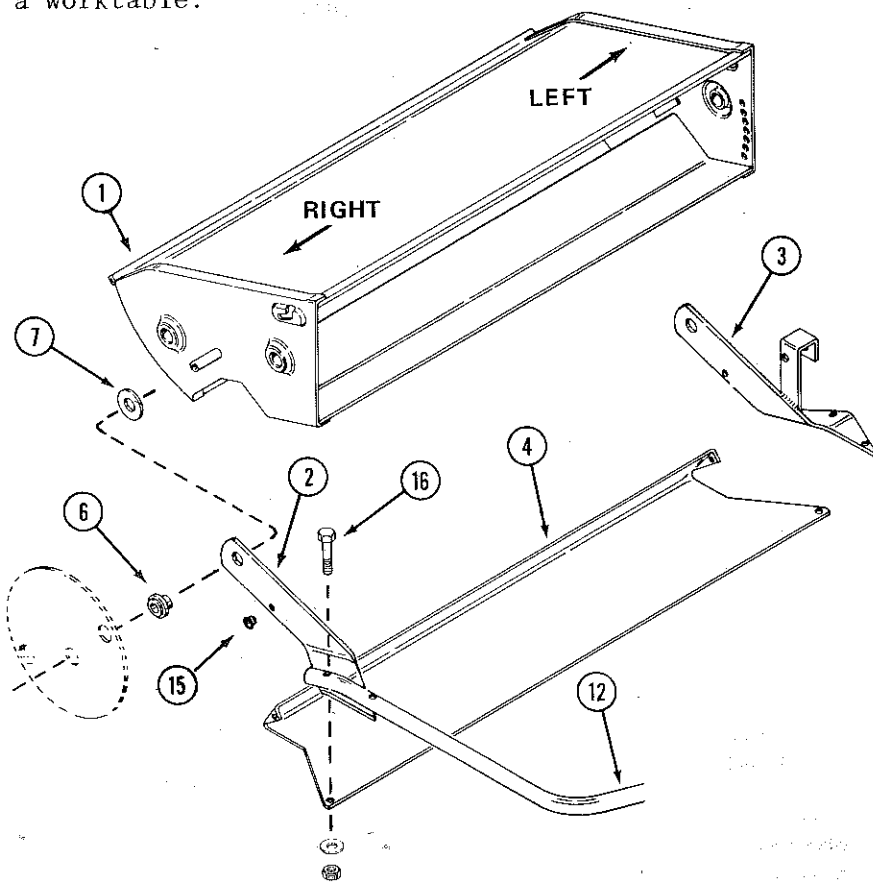

FIGURE 1
26. Install one large flat washer provided on each axle shaft replacing the thicker washers (Figure 1, No. 7) that were removed.
27. Insert the left axle through the left pivot bracket (Figure 1, No. 3).
28. Install the right pivot bracket over the wheel axle (Figure 1, No. 2).
29. Bolt the skid pan (Figure 1, No. 4) to the right pivot bracket. Install the bolt from the inside.